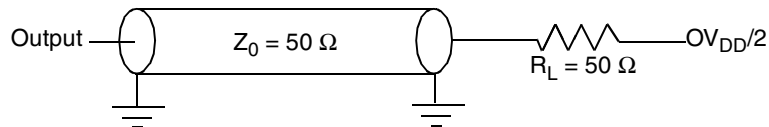

Figure 17. USB AC Test Load
1. All outputs are measured from the midpoint voltage of the falling/rising edge of t_{TCLK} to the midpoint of the signal in question. The output timings are measured at the pins. All output timings assume a purely resistive 50 Ω load (see Figure 17). Time-of-flight delays must be added for trace lengths, vias, and connectors in the system.
2. The symbols used for timing specifications herein follow the pattern of $t_{\text{(first two letters of functional block)(signal)(state)(reference)(state)}}$ for inputs and $t_{\text{(first two letters of functional block)(reference)(state)(signal)(state)}}$ for outputs. For example, t_{JTDVKH} symbolizes JTAG device timing (JT) with respect to the time data input signals (D) reaching the valid state (V) relative to the t_{JTG} clock reference (K) going to the high (H) state or setup time. Also, t_{JTDXKH} symbolizes JTAG timing (JT) with respect to the time data input signals (D) went invalid (X) relative to the t_{JTG} clock reference (K) going to the high (H) state. Note that, in general, the clock reference symbol representation is based on three letters representing the clock of a particular functional. For rise and fall times, the latter convention is used with the appropriate letter: R (rise) or F (fall).